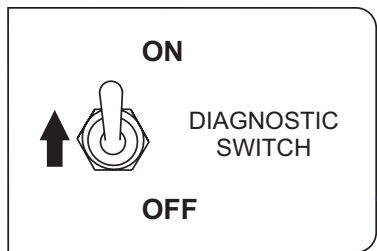

Figure 76. Diagnostic Panel
5. To start the diagnostic process, place the **diagnostic switch** to the **ON** (Figure 76) position.